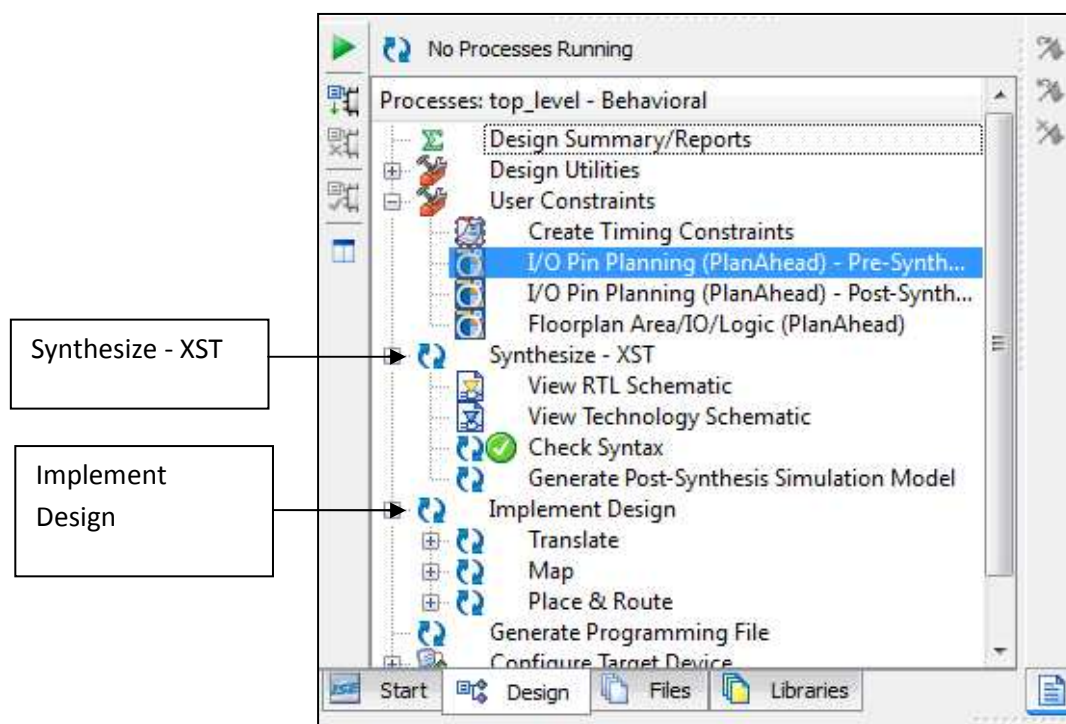

Figure 5.34: Portion of Project Navigator screen, with Implement Design expanded.
1. As shown in Figure 5.34, click on the '+' next to **Implement Design**. This will expand out to show the **Translate**, **Map** and **Place & Route** stages.